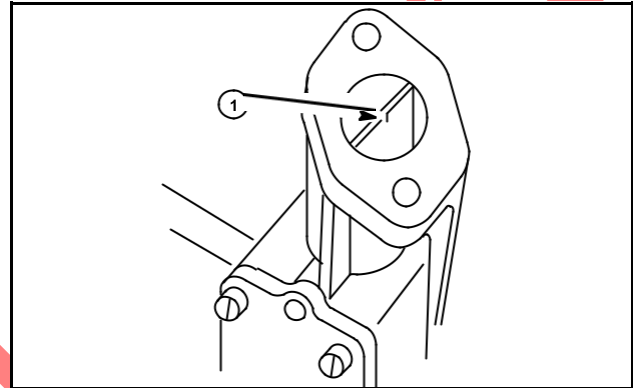

Fig. 83
When inserting spiral, top must be flush to 1/32" (.8 mm) below carburetor flange (1), and spiral parallel with fuel tank mounting surface, Fig. 83.